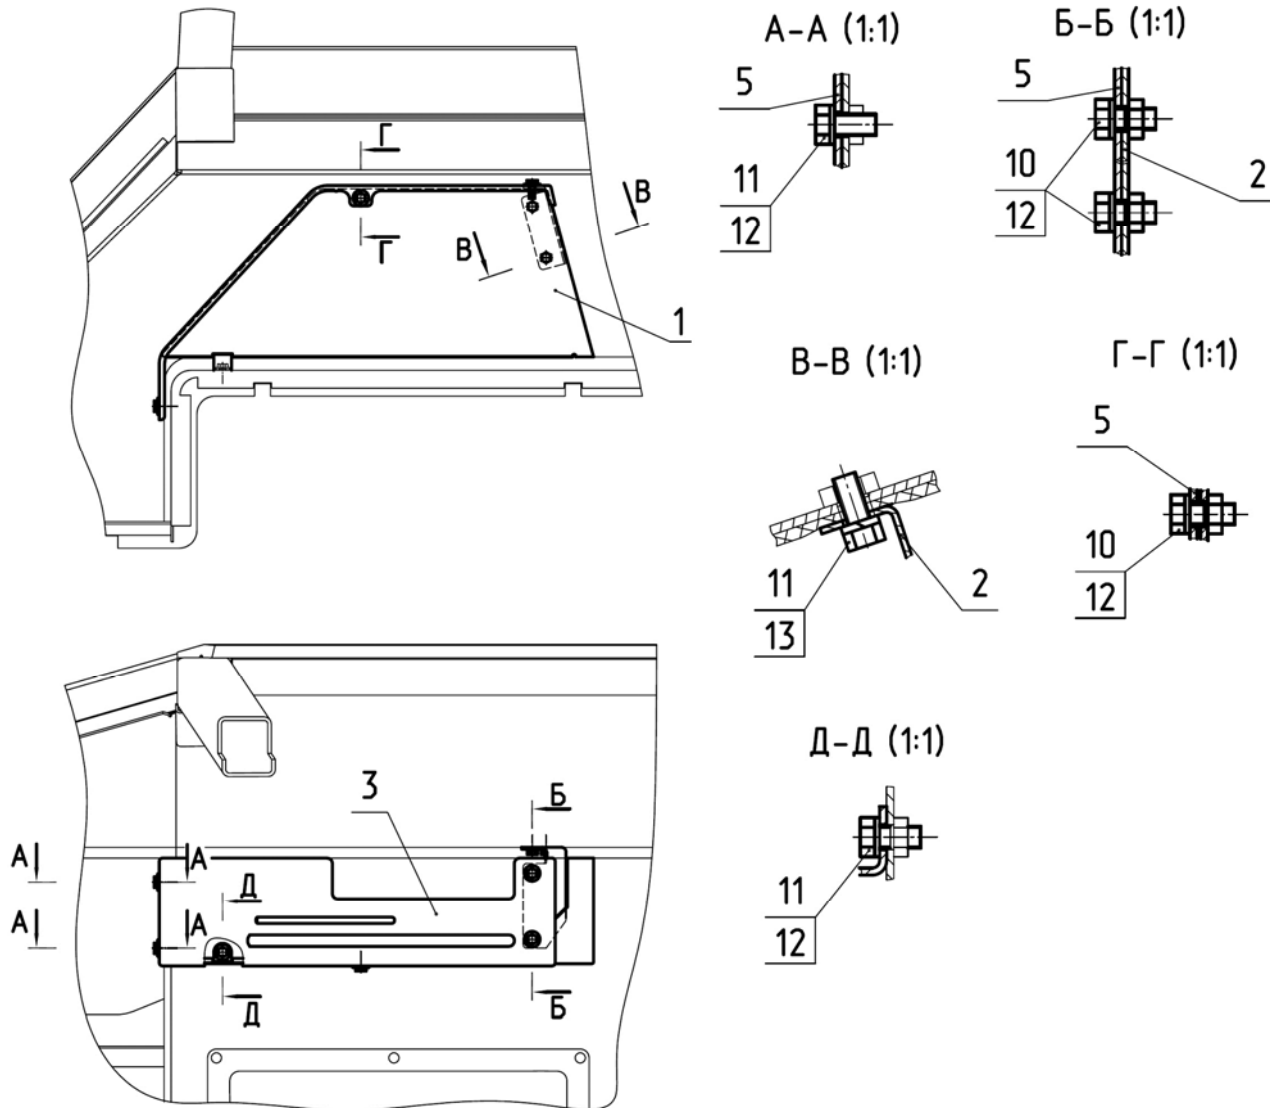

Figure 8.8
- a) unscrew bolts (10) and (11), remove cover (3) (figure 8.8);
- b) unscrew bolts (11) and remove panel (1);
- c) unscrew bolts (11) and remove arm (2).